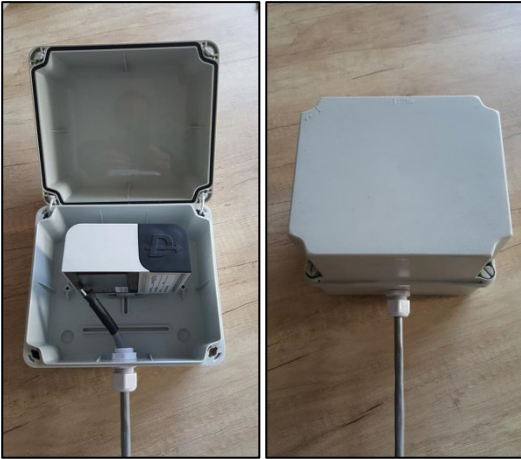

Figure 4: Receiver on Plastic
- Avoid mounting the radio receiver module in a metal or concrete enclosure or structure. Even a metal cage will negatively influence radio signal. It is acceptable to mount the receiver module within a plastic enclosure as shown in Figure 4.